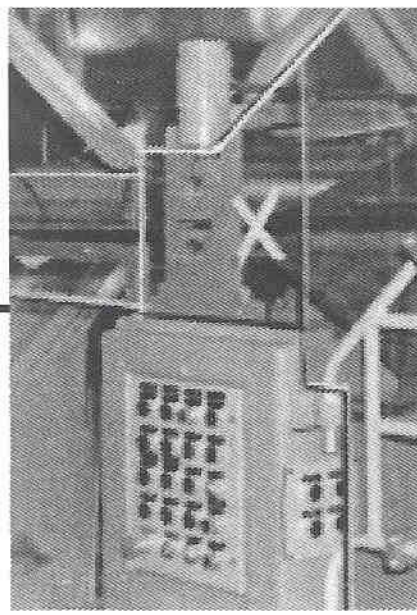

Fig. 8
**Fig. 8** Transparent plastic barrier mounted on pinch roll frame to restrict access to roll bearing box squeeze points, roll nip points, sharp strip edge, and moving strip.